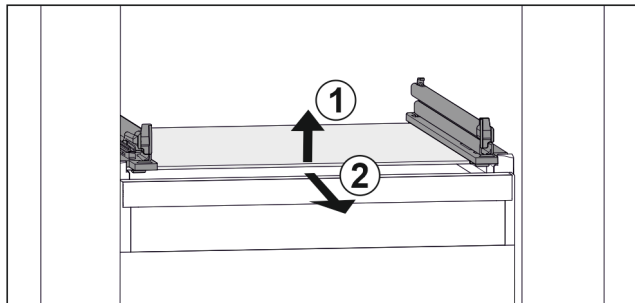

Fig. 114 Example illustration of glass shelf
- Lift glass shelf at the front. Fig. 114 (1)
- Take out glass shelf to the front. Fig. 114 (2)